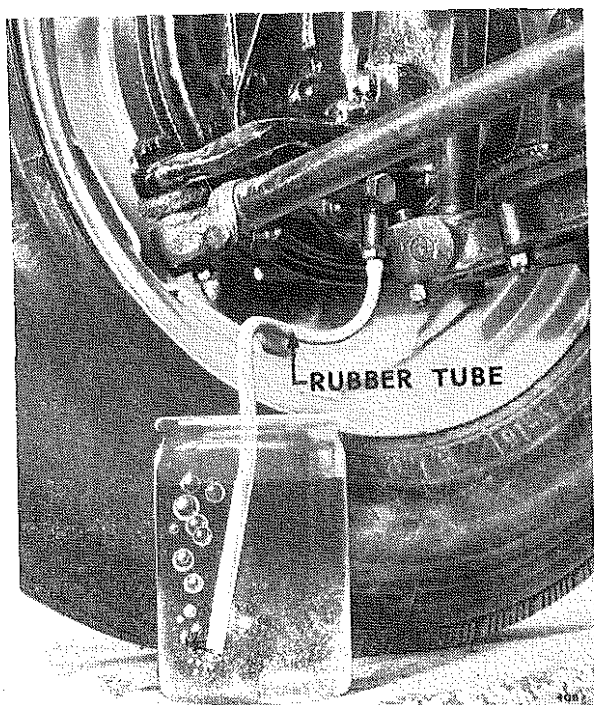

Fig. 40.
2. Wipe clean the bleeder nipple of the brake concerned and fit a piece of rubber tube over it, allowing the tube to hang in a clean container partially filled with fluid, so that the end of the pipe is below the level of the fluid (see Fig. 40).